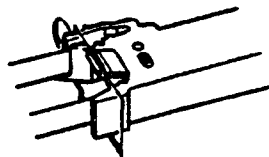

Figure 6.6
- (8) Push the cassette into the square hole on the right sideplate until it latches with a click. (Figure 6.6)
- (9) When the slack ribbon falls below the wire dot printer, repeat the above procedure to remove ribbon slackening.